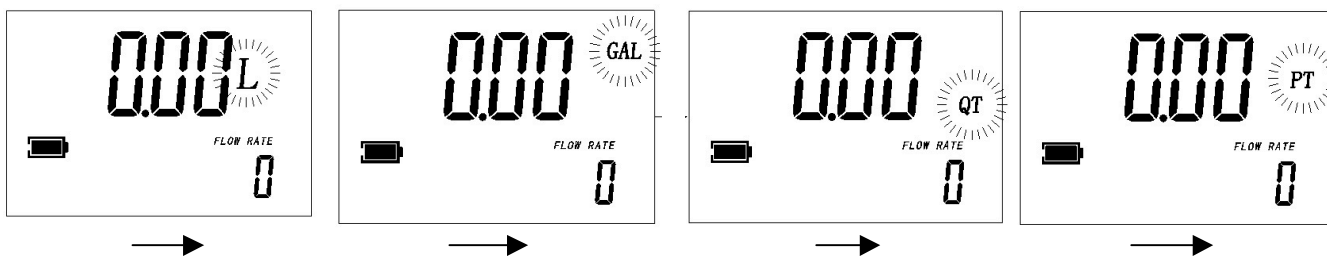

Fig. 4
- **Measurement unit change (See Fig. 4)**